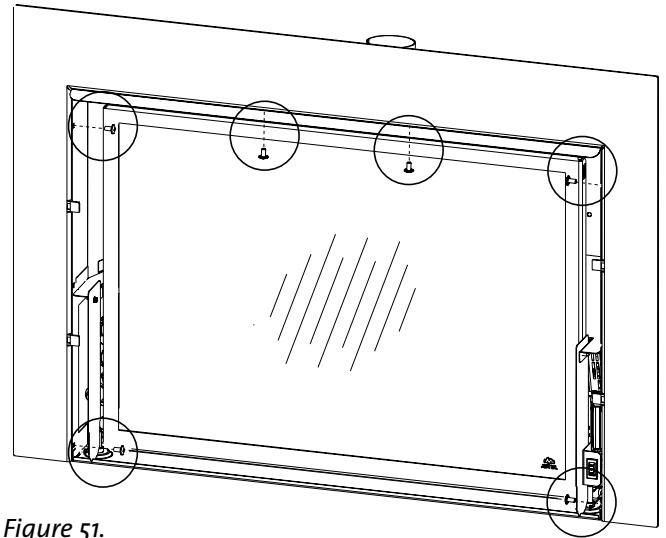

Figure 51.
1. Loosely attach the Backer Plate to the insert firebox using the ten, M6 x 8 phillip head screws as shown in Fig. 51. Tighten the screws in an alternating pattern.